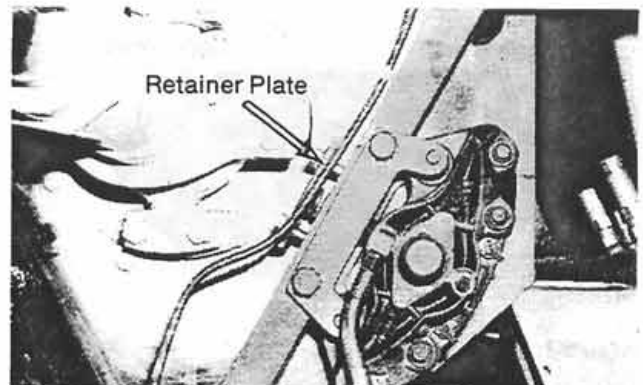

Figure 3:
1. Disconnect and quickly cap the brake line(s), and loosen the spring retainer (Fig. 3).